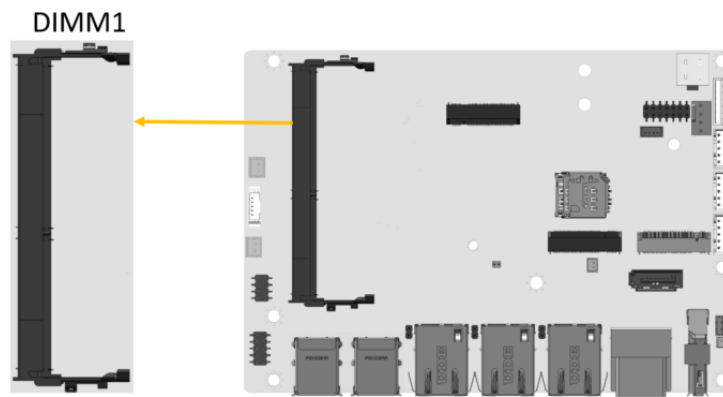

Figure 4-10: DDR4 SO-DIMM Socket Location
- CN Location:** See **Figure 4-10**